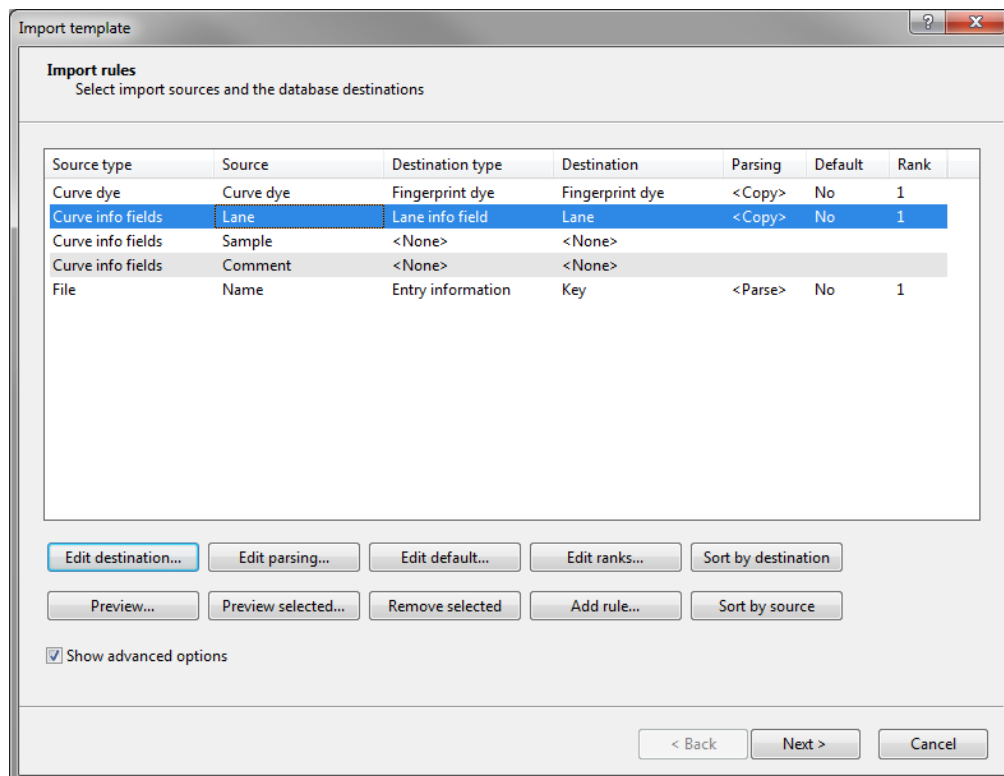

Figure 2.2: Import rules.
- 4.4 Press the **Create new** button to call the *Import rules* dialog box (see Figure 2.2).
The *Import rules* dialog box (see Figure 2.2) lists the information present in the selected files as **Source**, their linked **Source type** and the **Destination** component they are associated with (currently all set to <None>).
The *Import rules* dialog box should now look like Figure 2.2.